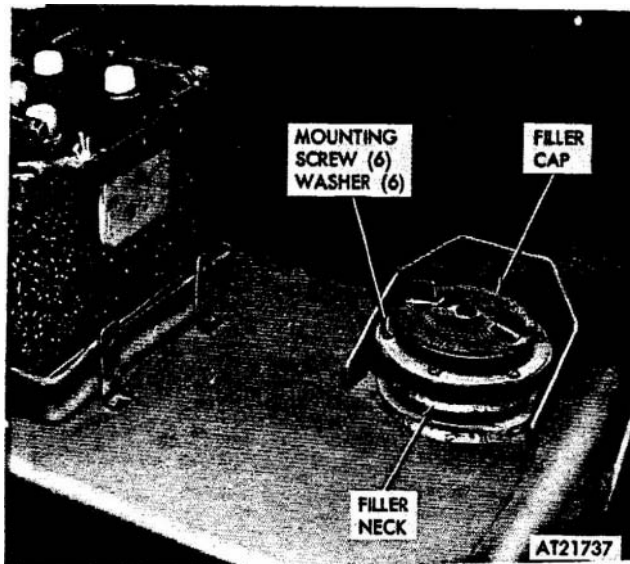

Figure 2-85. Fuel tank filler neck.
(1) Twist filler cap counterclockwise and remove from tank (fig 2-85).
(1) Install gasket and filler neck on fuel tank, secure with six screws and washers (fig 2-85).
(2) Replace filler cap and secure by twisting in place.